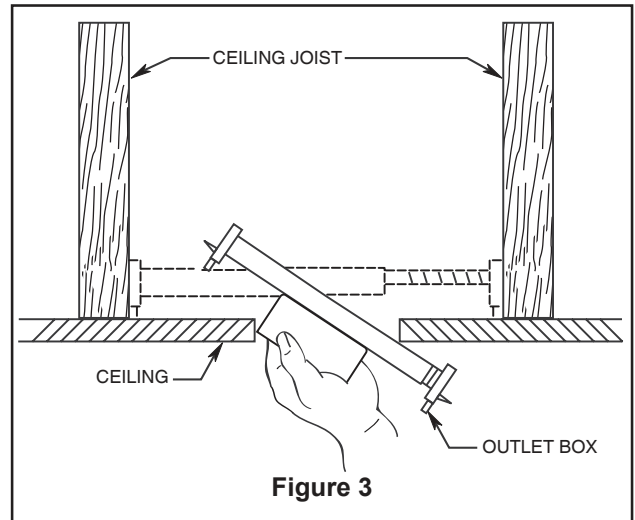
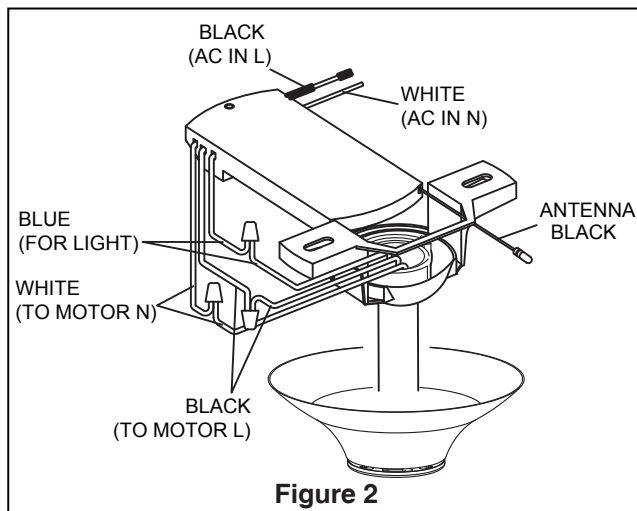

Figure 3
Figure 2
Your new ceiling fan will require a grounded electrical supply line of 120 volts AC, 60 HZ, 15 Amp Circuit. Electrical code requires use of a fan-rated outlet box to support the extra weight and motion associated with a ceiling fan. A fan-rated box will be labeled as such and typically supports up to a 70lb ceiling fan. Fan-Rated Outlet Boxes vary in ratings and design. Ensure the ratings of your ceiling fan outlet box meet the requirements for the ceiling fan being installed. Figure 1, Figure 2 and Figure 3 depicts different structural configurations that may be used for mounting the outlet box.
Deep box (Figure 2)
Deep box with brace (Figure 3)
The fan must be hung with at least 7' of clearance from floor to blades. (Figure 2)
1. Connect wires using connectors as shown in Figure 2.
2. Securely attach and tighten the canopy screw cover over the shoulder screws in the hanger bracket utilizing the keyslot twist-lock feature. (Figure 2)
2. Position the trim cover onto the blade plate assembly bottom. (Figure 2)
- 2.** Restore electrical power to the outlet box by turning the electricity on at the main fuse box. (Figure 2)